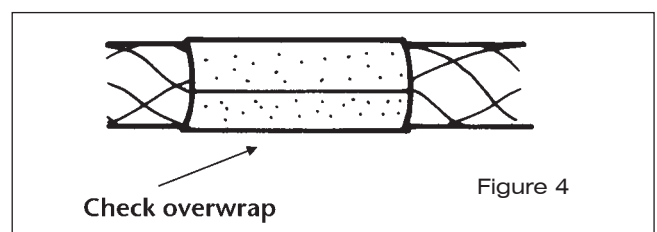

Figure 4
- Center a piece of glass cloth over the joint. Pull on the cloth while positioning it, and wet it out by painting with resin. Brush to remove any trapped air bubbles in the wrap. Start at one end of the cloth and work around the circumference, wetting the cloth with resin. Work the cloth away from the starting end and from the center of the cloth to the sides. The cloth must be thoroughly wetted with resin, but do not spend a lot of time in one area, as the cloth will wet out (lose its shiny-white appearance) with time. By the time the cloth has been worked down smooth with no air beneath it, most of it will be wetted out. In areas that remain unwetted, brush the area in smooth strokes in the same direction the cloth was laid. Work out any wrinkles in the same manner. (See Fig. 4.)